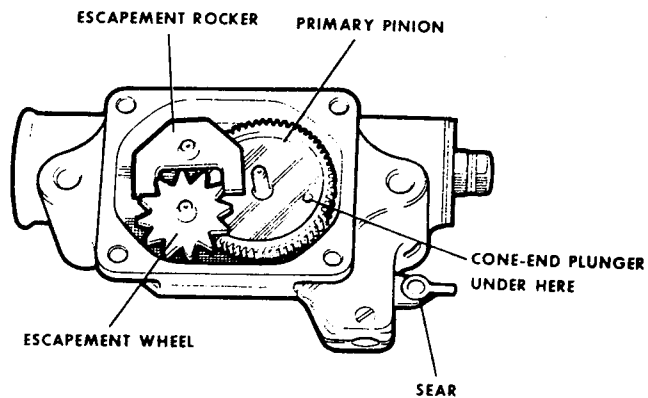

Fig 3 Assembling gear train
9.10 Fit the primary pinion (fig 3) so that the cone-end plunger is in engagement with the countersunk hole, and check that the plunger and spring are functioning correctly.